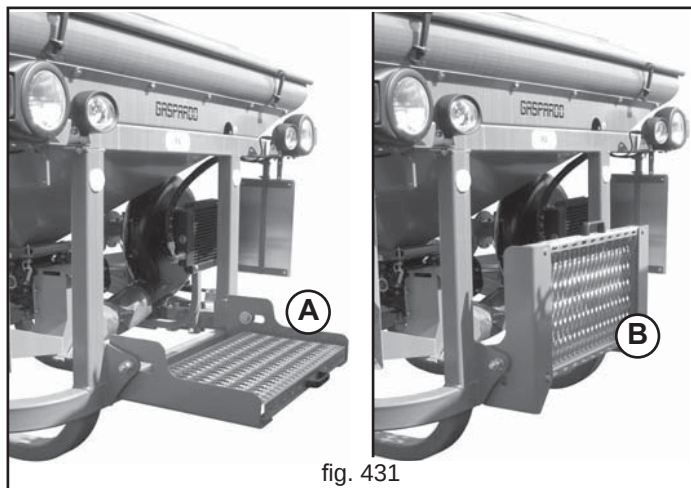

fig. 431
In the event of manual loading, use the platform (A, Fig. 431) to reach the hopper of the equipment.
Always fold the platform as shown in Figure 431 (B) during the work and during road transport.